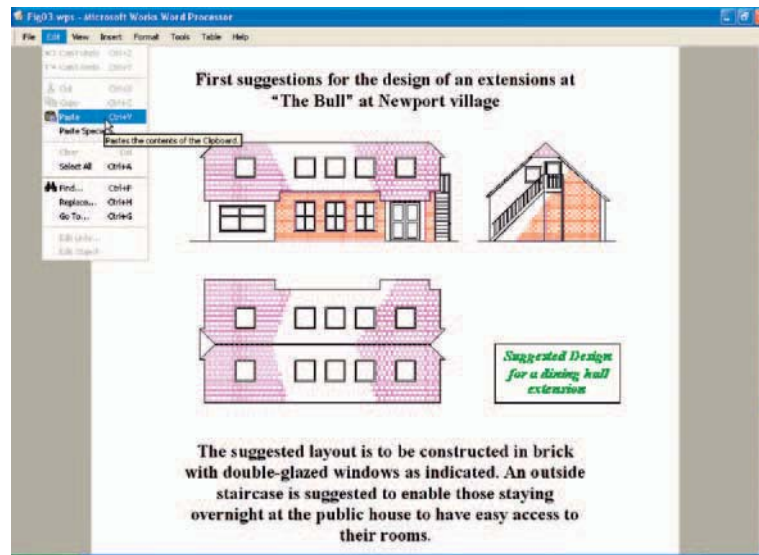

Fig. 10.2 Example – Copying and Pasting
First example – Copying and Pasting (Fig. 10.2)
3. Open **Microsoft Word** and click on **Paste** in the **Edit** drop-down menu (Fig. 10.2). The drawing from the **Clipboard** appears in the **Microsoft Word** document (Fig. 10.2). Add text as required.